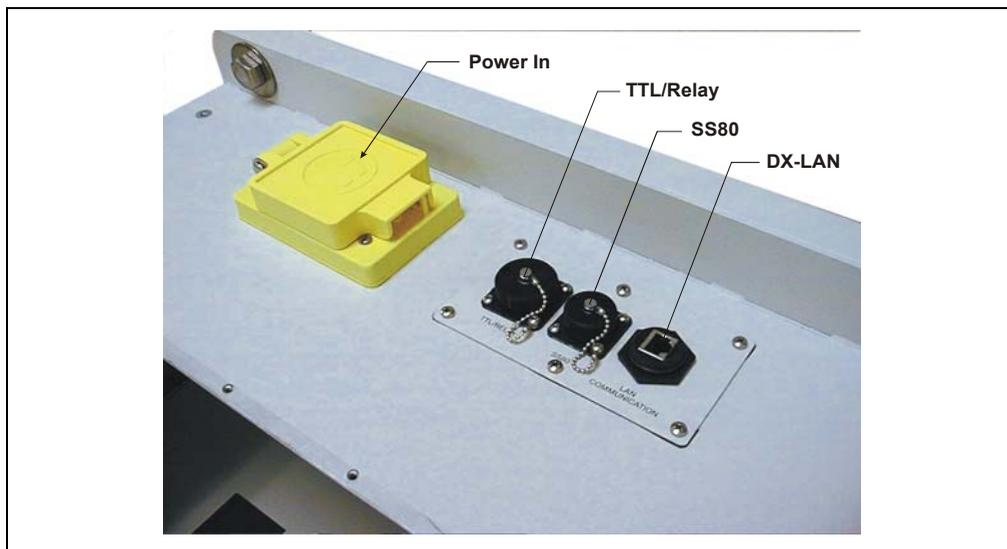

Figure 2-2. Top View of AE80 Enclosure
Electrical connections are made to an electrical I/O panel on top of the AE80 enclosure (see Figure 2-2).
- The main power receptacle provides a connection to **POWER IN**, the main power inlet on top of the AE80 enclosure (see Figure 2-2).
- Electrical cables (including the DX-LAN and TTL/Relay cables) exit the CC80 via openings in the rear panel. The cables are connected to the top of the AE80 enclosure (see Figure 2-2).